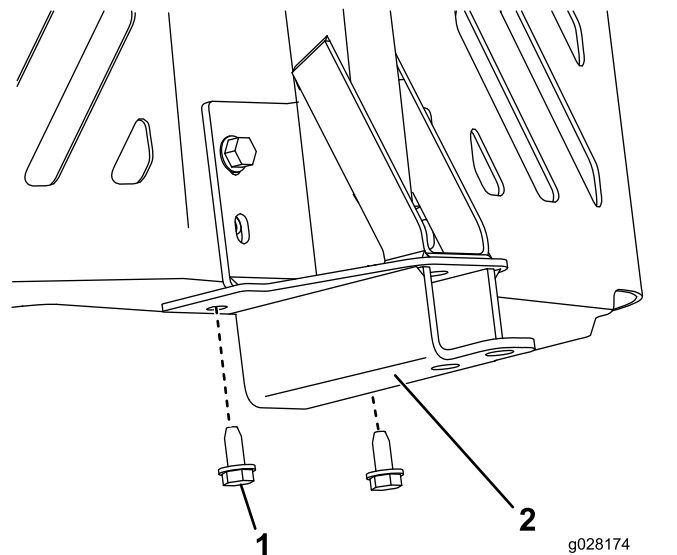

Figure 12
3. Secure the pivot frame to the bottom of the machine frame using 2 self-tapping screws (5/16 x 3/4 inch) as shown in Figure 12.